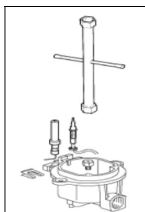

Fig.11
- 4) Unscrew the nozzles using a 7 mm spanner, and replace them (Fig.11) with those needed for the new type of gas according to what is indicated in the Energy Consumption Table.